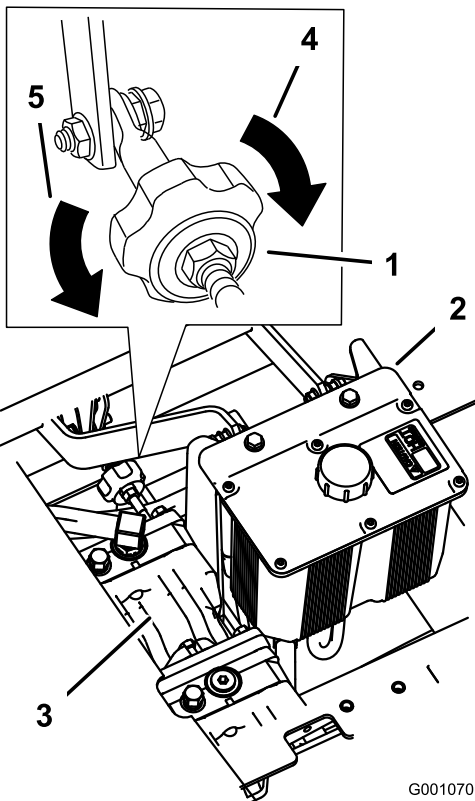

Figure 50
4. To make the machine go right, turn the knob towards the rightside of the machine. Refer to Figure 50.
5. To make the machine go left, turn the knob towards the leftside of the machine. Refer to Figure 50.